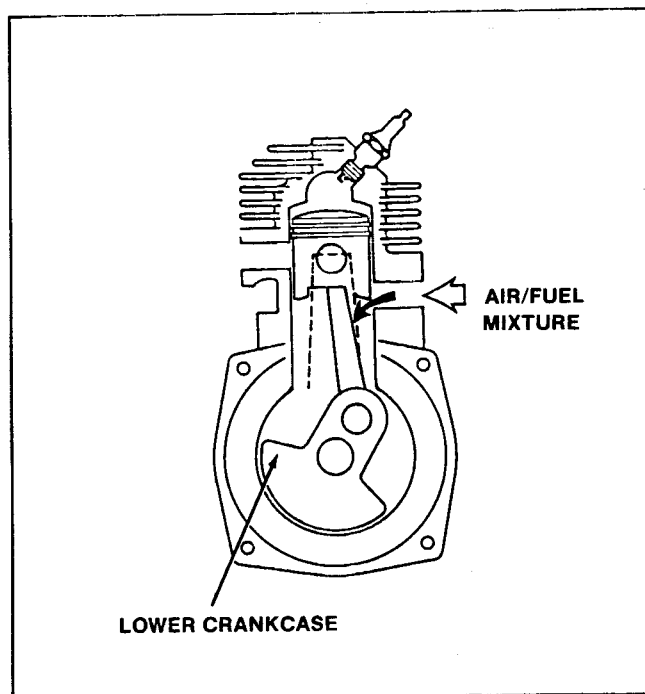

Figure 81
5. The lower skirt of the piston rises above the intake port and allows a fresh air/fuel mixture to be drawn into the lower crankcase. See Fig. 81.